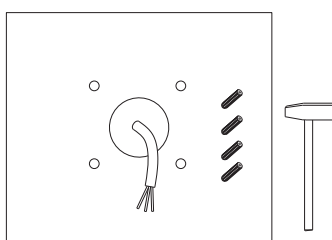

Figure 3-2
2.Fix rubber plugs into holes. (Figure 3-2)